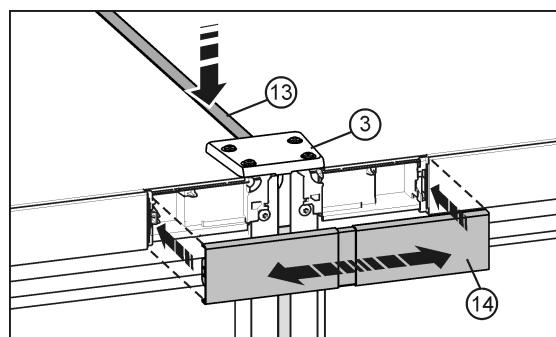

Fig. 27
- On the top, press the short trim Fig. 27 (13) into the gap. The trim must form a flush finish with the connecting plate Fig. 27 (3) on the front edge.
- Snap the cover Fig. 27 (14) onto the open space between the two control panel trims. Make sure that the outer surfaces of the cover form a flush finish with the control panel trims. The cover can be extended for this purpose.